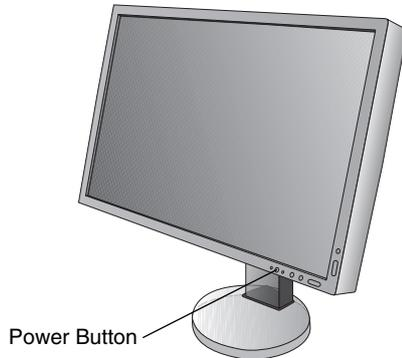

Figure E.1
8. Turn on the computer and the monitor by pressing the power button (**Figure E.1**).